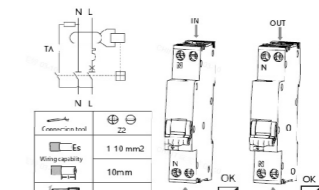

Fig. 5 Wiring Schematic Diagram
5.3 The copper wire and strip lengths are as shown in Figure 5 below.